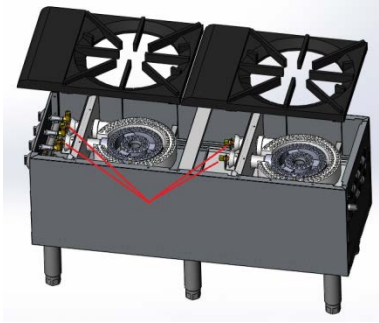

Fig. 7
1. Take out the grate on the top. You can see the orifice is on front of the burner as below Fig.7 show.